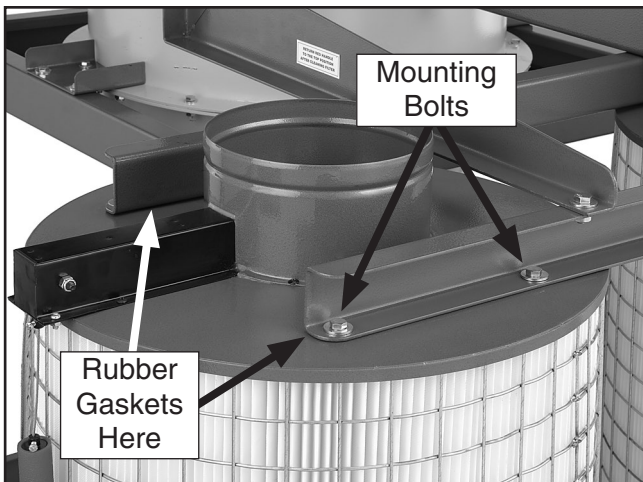

Figure 28. Canister filters mounted to the long support braces.
- With assistance, position the rubber mounting gaskets between the filter canisters and the long brace supports, and secure the canisters with (8) $\frac{5}{16}$ "-18 x $\frac{3}{4}$ " hex bolts and (8) $\frac{5}{16}$ " fender washers (see **Figure 28**).